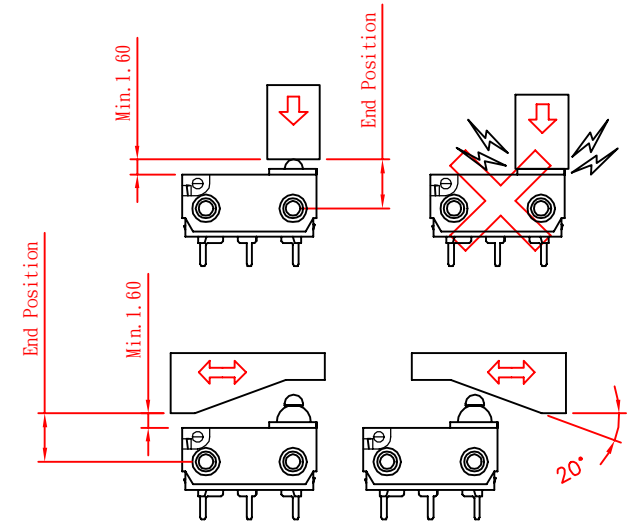

Figure-2
**5:** Do not exceed the end position (EP) and over travel (OT). This could cause operation failure. (Figure-2)